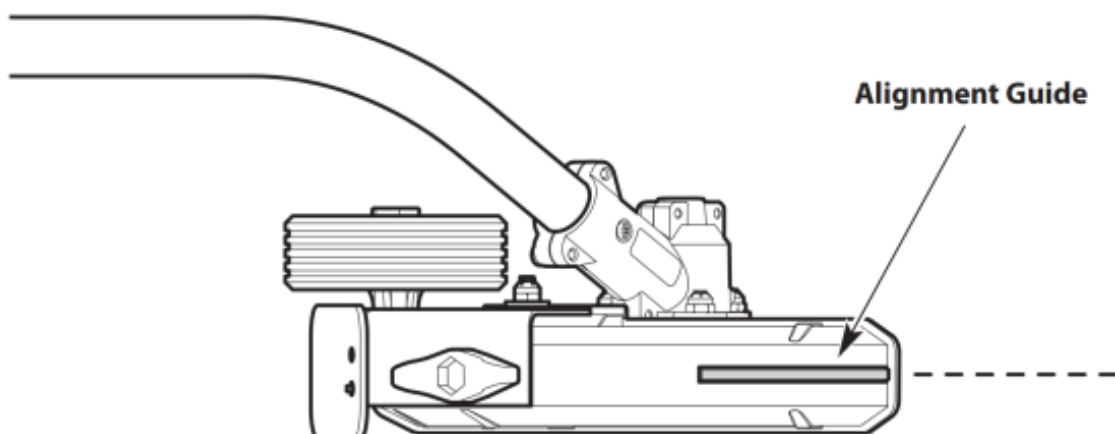

Fig. 5
- Use the alignment guide to help maintain proper alignment (Fig. 5).